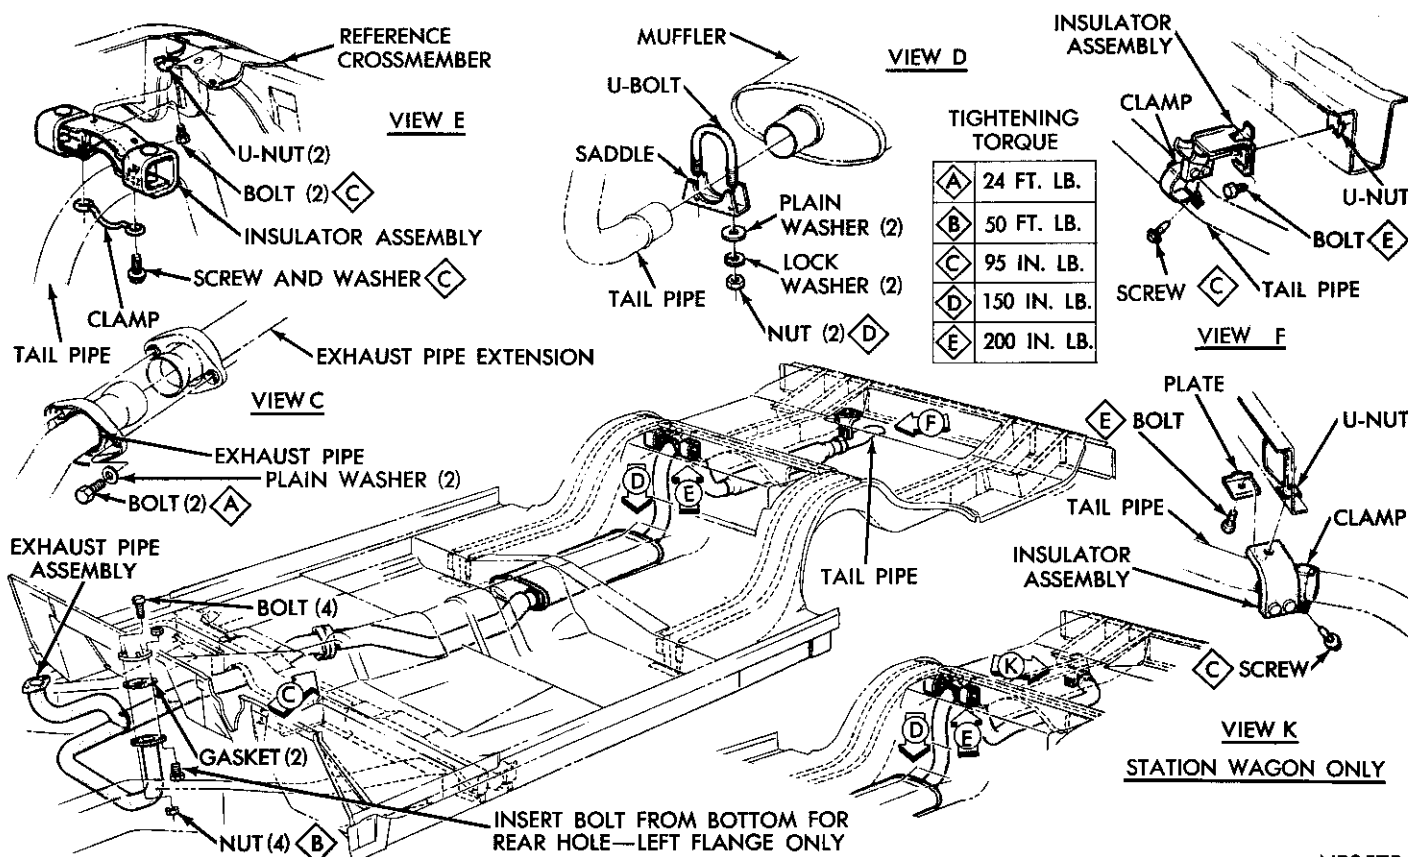

Fig. 1—Single Exhaust System
(1) Raise vehicle on hoist and apply penetrating oil to all clamp bolts and nuts to loosen rust and corrosion. If only the muffler is to be replaced, cut the extension pipe just forward of the muffler with a hack saw or cutter. It is not necessary to remove the exhaust pipe. The replacement muffler can be installed, using a U-bolt and saddle clamping arrangement at the front of the muffler.
(2) Remove clamps and supports from exhaust pipe, muffler and tail pipe (Figs. 1 and 2).
(3) Remove bolts at ball joint connections.
(4) Disconnect exhaust pipe at exhaust manifolds and remove exhaust pipe. Discard gaskets and carefully clean manifold flanges of any gasket particles.
(5) Remove muffler and extension pipe.
(6) Raise rear end of vehicle to relieve body weight from rear springs and remove tail pipe.
(1) Assemble exhaust pipe, muffler and tail pipe loosely to permit proper alignment (Figs. 1 and 2).
(2) Assemble exhaust pipe to exhaust manifolds,